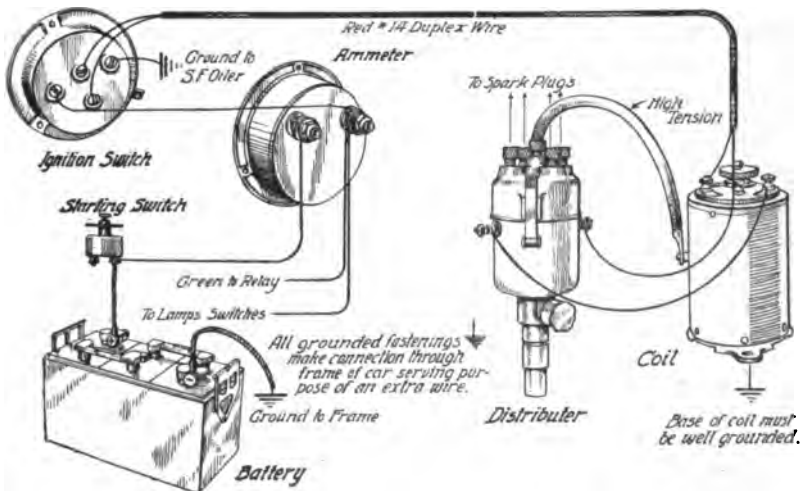

Fig. 125. Essentials of Battery Ignition System
*Remy System.* The relation that the various essentials of a battery-ignition system of the types here described bear to each other is made clear by glancing at the graphic wiring diagram of the Remy system, Fig. 125. The starting switch shown at the left has, of course, no connection with the ignition system but is included in the illustration because the current-supply wire for the latter is connected to one terminal of the starting switch instead of being
*Ignition Switch.* From the ammeter, Fig. 125, the current passes to the ignition switch of the *reversing* type, that is, it serves to change the direction in which the current flows every time it is turned on. For the purposes of either ignition or lighting, it is immaterial in which direction the current flows, but the latter has an important bearing on the life of the expensive contact points in the interrupter. As has been explained previously, the passage of a current through contact points or across a gap tends to transfer the material of the positive electrode to the negative, resulting in the formation of a cone at the positive and a crater, or hollow, at the negative. When the points have worn to this condition through long service, the contact is poor and uncertain, while the points are apt to stick, and to put them in good working order means filing away some of the platinum which is more costly than gold. The use of a reversing switch, which alternately makes the same point positive and negative, keeps both contacts in better condition for a greater length of time.
*Interrupter and Distributor.* The interrupter is enclosed in the same housing as the distributor, Fig. 125, and is directly below it. As with a magneto, the coil is grounded by attaching it to its pedestal